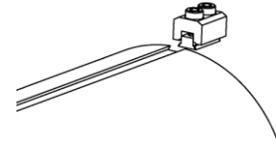

Fig. 1
**Fig. 1 – Core Stop (Dovetail):** Loosen – do not remove – the two socket head capscrews in the top piece of the core stop. Slide the dovetail into the groove in the shaft until it is aligned as required for your application. Tighten the bolts to 55-60 in·lbs.